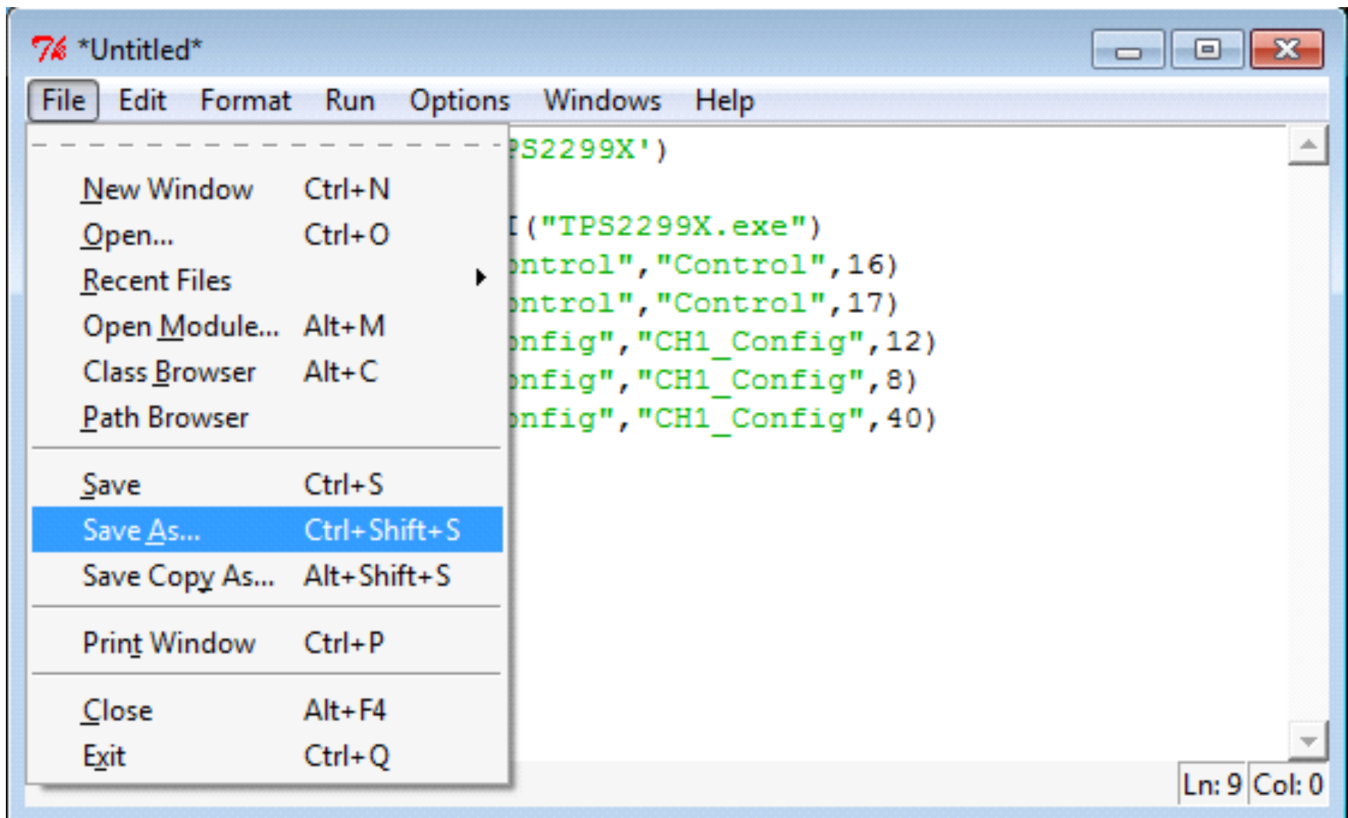

Figure 19. Save Python Script Window
- (J) Open the Python window and go to File >> Save As, see Figure 19